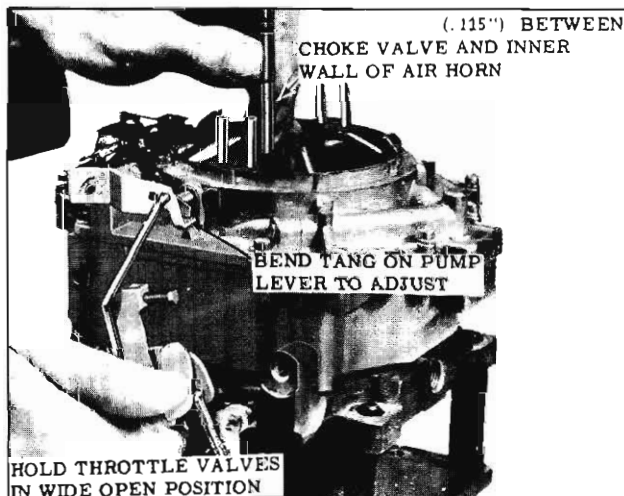

Fig. 4-174 Unloader Adjustment
2. While holding the throttle lever in the wide open position (with carburetor off car), or with accelerator pedal completely depressed (with carburetor on car), check the clearance between the top edge of the choke valve and the dividing wall. The correct clearance is .115". (Fig. 4-174)